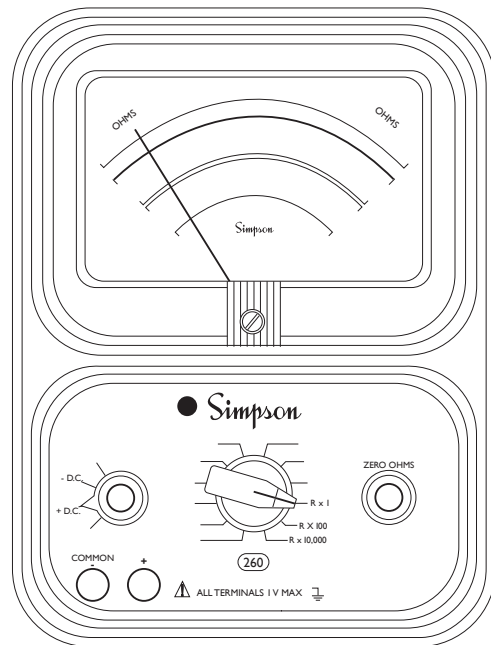

Figure 4-14. Jacks and Switch Positions for Continuity Tests
- Set the FUNCTION switch to the “J”. Insert the black test lead into the COMMON (-) and the red test lead into the (+) jacks, (Figure 4-14).